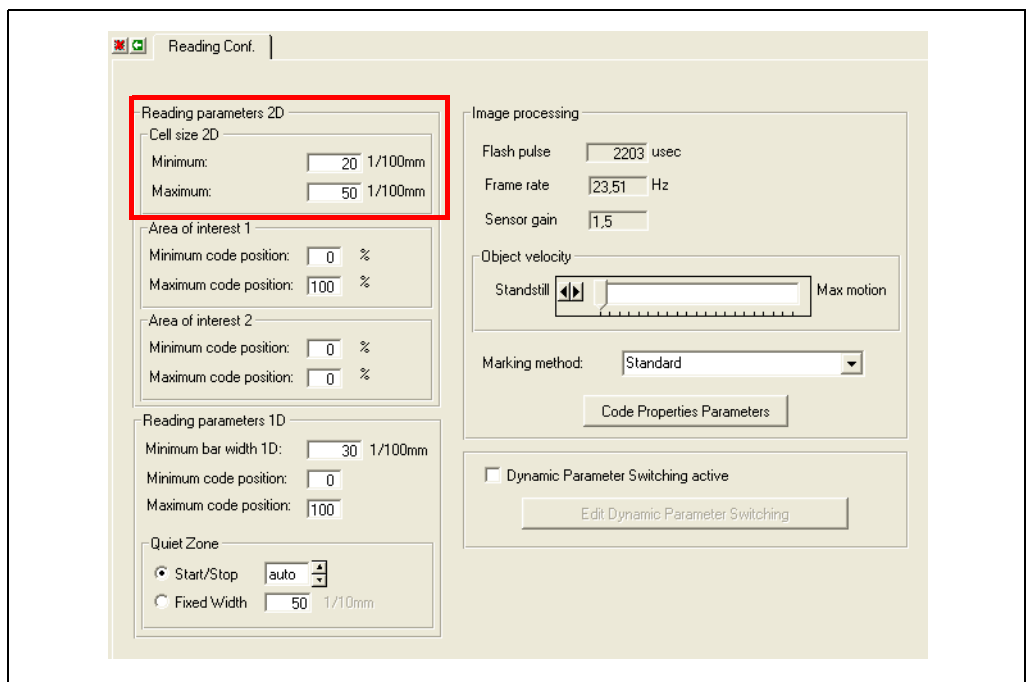

Fig. 10-5: CLV-Setup: "Reading Configuration" tab
1. Select the READING CONFIGURATION tab (*Fig. 10-5, Page 131*).